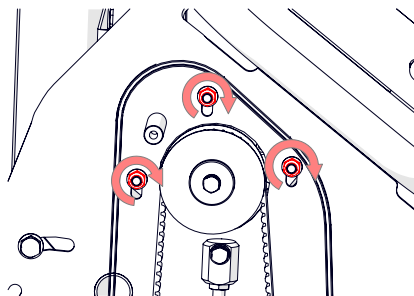

Fig. 19J - Tighten the motor 3 x top nuts.
10. Tighten the 3 x top nuts [2 x 13 mm spanner] supporting the motor - secure from the inside of the machine and tighten from the outside (Fig.19J).